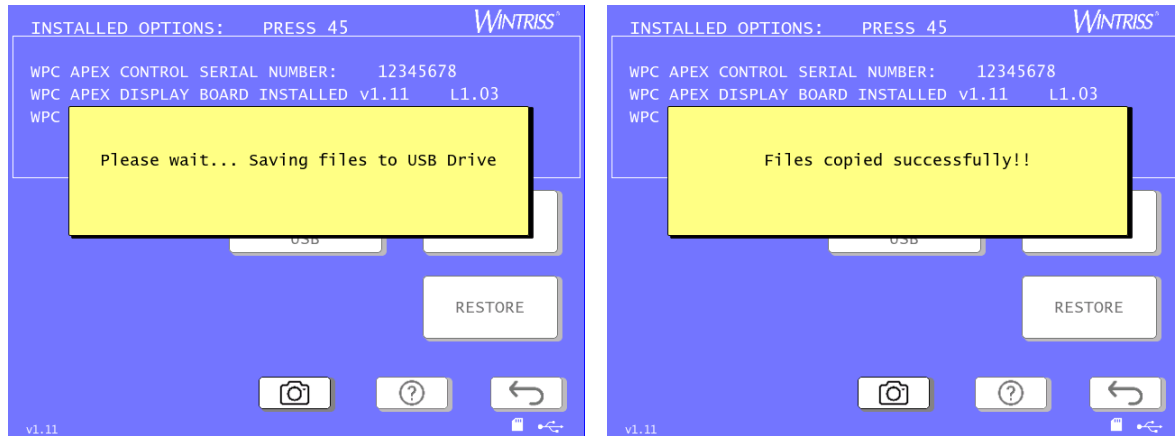

Figure 3-20. Saving Event Log, In-Process and Completed
3. Press SAVE EVENT LOGS TO USB. The event logs are saved to the USB drive and the messages in Figure 3-20 appear.